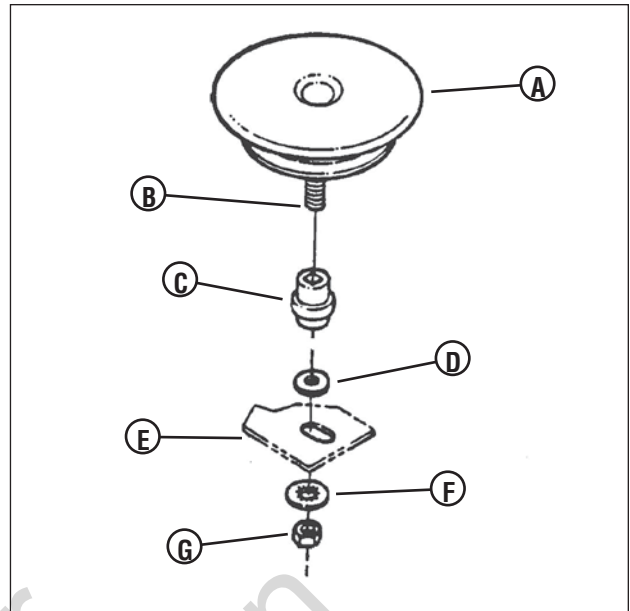

Figure 32: Removing the drive disc
5. Hold the slotted end of the drive disc bolt (**B**, **Figure 32**) with a screwdriver and remove the nut (**G**) and internal tooth lock washer (**F**).